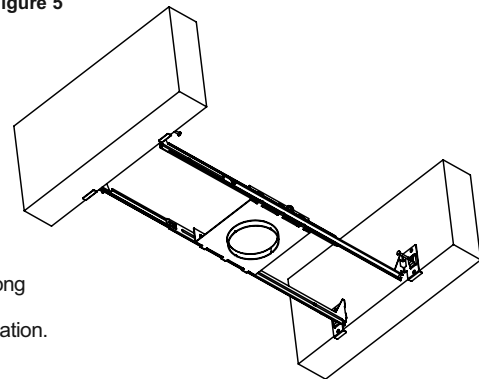
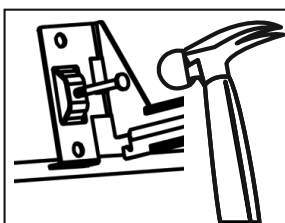

Figure 6
Figure 7
Step 1. Extend bar hangers to fit between joists. Each bar hanger foot is contoured to align with the bottom of ceiling joists (Fig. 6). Set frame into place by hammering in the nails at each foot (Fig. 7).